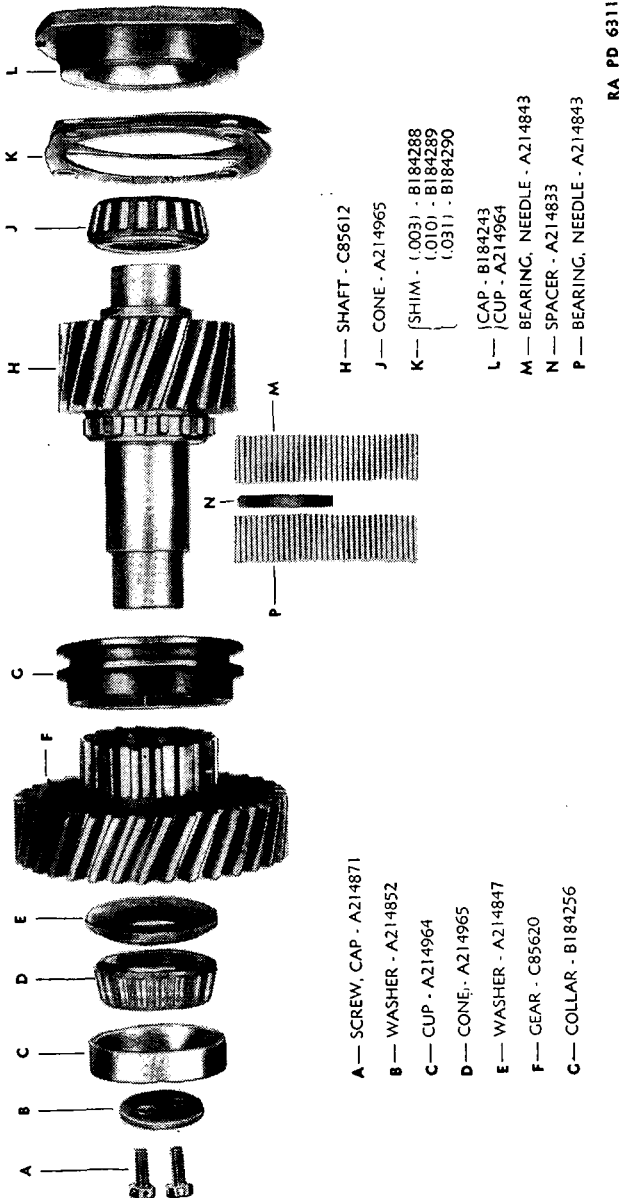

FIGURE 117.—Transfer case intermediate shaft, exploded.
ers (BECX1L) holding intermediate shaft rear bearing cap (B184243) to case, and pry off cap and shims (B184288, B184289, and B184290, fig. 117).
(10) Remove intermediate shaft front bearing cone retainer washer—cutting pliers,  $\frac{9}{16}$ -inch socket wrench. Remove locking wire and two cap screws (A214871) from front end of intermediate shaft and remove bearing cone retainer washer (A214852) (fig. 117).
(12) Remove intermediate shaft bearing cups—brass drift, hammer. Drive cups (A214964) out of front end of case and out of rear bearing cap (fig. 117).
(13) Remove mainshaft companion flange—cutting pliers, 1½-inch socket wrench, puller. Remove cotter pin (BFAX1DM), slotted nut